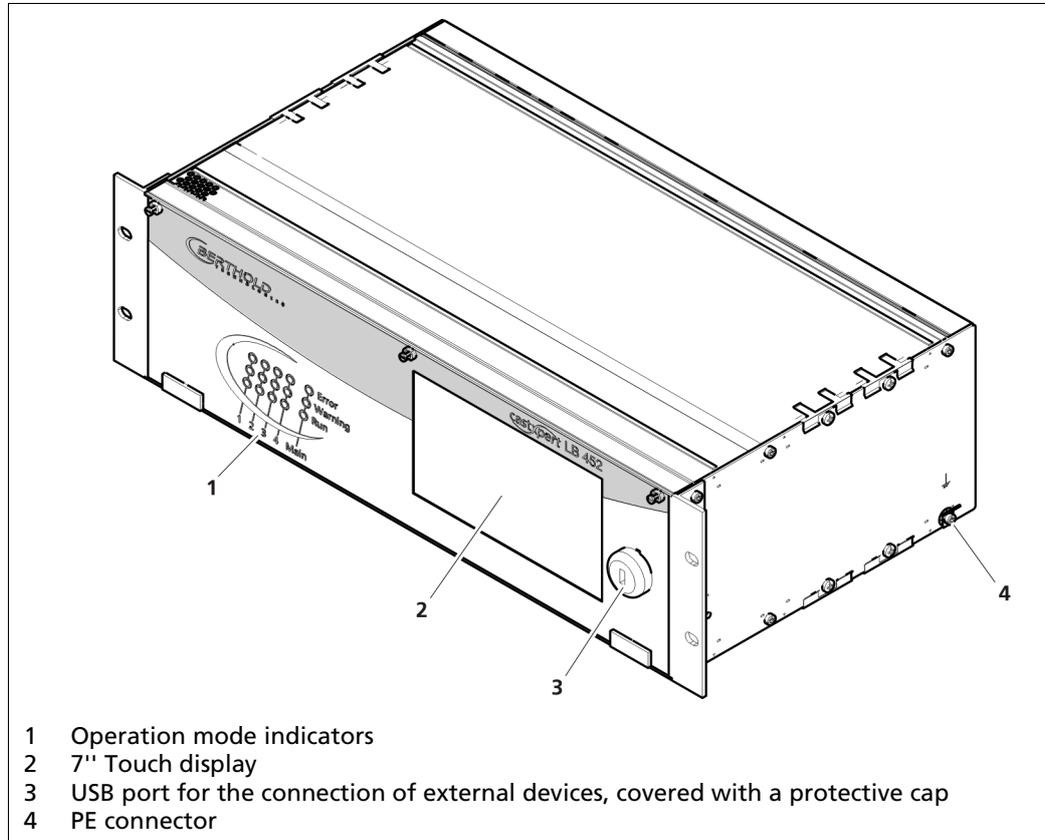

Fig.1 Front view of the EVU
2. Ground the unit properly by connecting the prepared grounding point to ground. See Fig.1: Low on the side there is a grounding point.